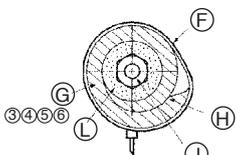

Fig. 9
- Ⓔ Section of connection (Fig. 9)
- Ⓕ Band ⑨
- Ⓖ Pipe covers ③ ④ ⑤ ⑥